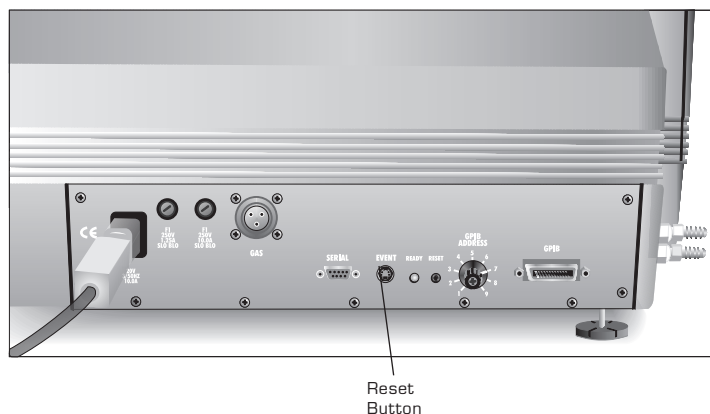

Figure 6.2
- If the Autosampler CE is already on, press the reset button on its back panel to restart the confidence tests (see Figure 6.2).